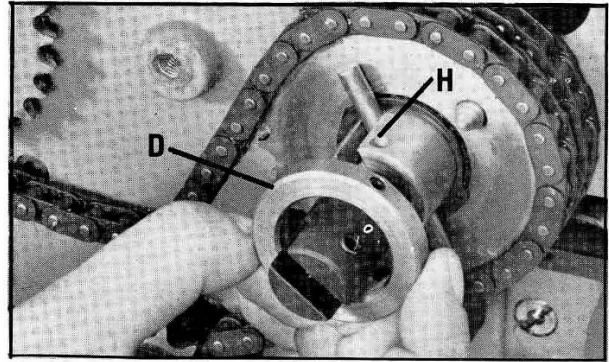
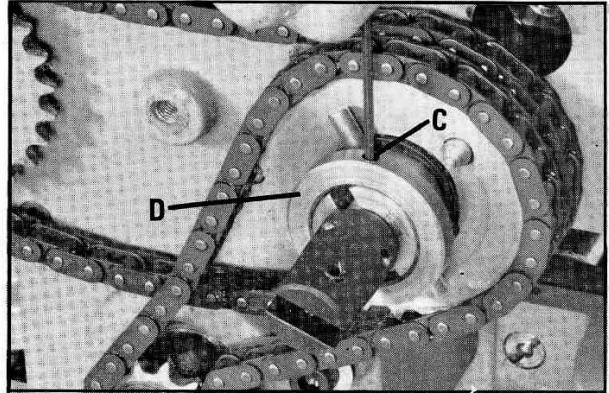

Fig. 22
Fig. 23
6. Reassemble collar (D) Figs. 22 and 23.
7. Tighten set screw (C) Fig. 23, into countersunk hole (H) Fig. 22.